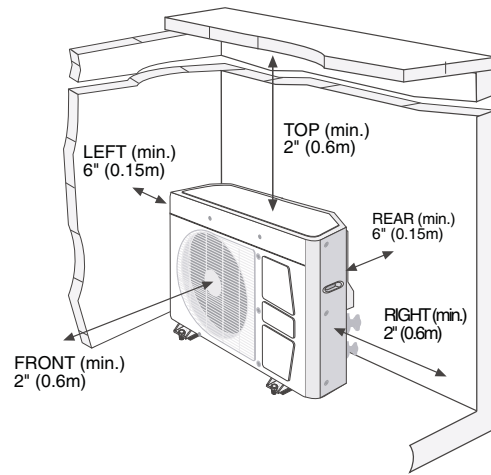

Fig. 1 — Outdoor Unit Clearances
- Use only type "G" or "C" fuses. Use single length power cable without extension. Allow sufficient space for airflow clearance on condensing units for wiring, refrigerant piping, and servicing unit. See Fig. 1 for minimum required distances between unit and walls or ceilings.